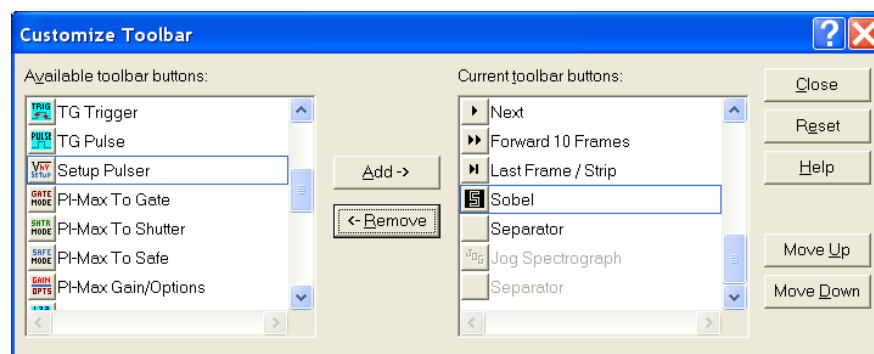

Figure 194. Customize Toolbar dialog
Although the **Custom Toolbar** defaults with the buttons shown in Figure 193, many additional buttons are in fact available and can be added to the button using the **Customize Toolbar** dialog (Figure 194). Buttons can be added or removed at any time and the new configuration will be saved when the dialog is closed.
2. Referring to Figure 194, note that the buttons available for placement on the **Custom Toolbar** are listed on the left. Buttons already on the toolbar are on the right.
2. Referring to Figure 194, note that buttons already on the toolbar are listed on the right. Available but unused buttons are listed on the left.